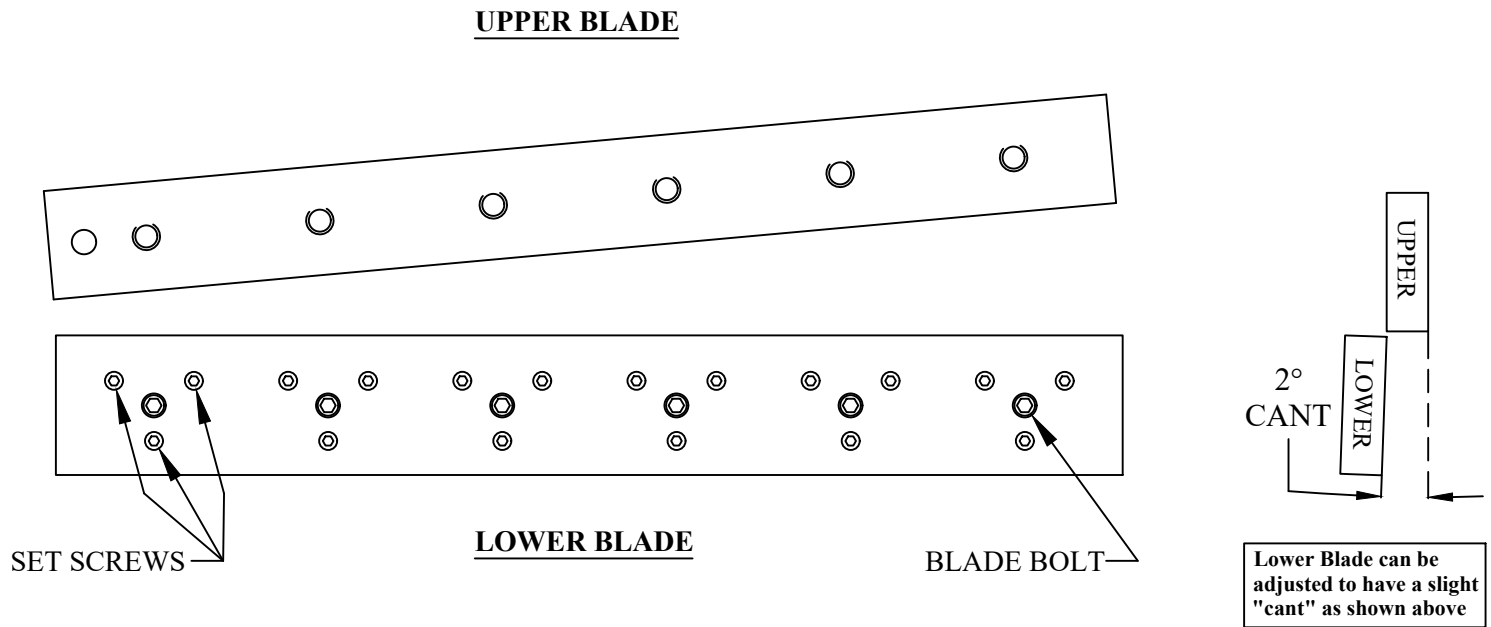

FIGURE 11
The standard shear blades fitted to the machine comprise of two rectangular fixed blades. The shear blades are symmetrical and each can be rotated to expose four (4) cutting edges. After a period of time and subsequent dulling of the blades, the blades can be removed, rotated, and reinstalled back on the machine. Blade Clearance must be checked whenever blades are changed. SEE FIG. 7 on page 19, and FIG. 11 on page 23 for more information on setting the shear blade clearance.
- Adjust the lower blade to the upper blade to achieve desired clearance. SEE FIGURE 11 ABOVE. Ensure that the lower blade is adjusted with a slight cant, or tilt of a few thousandths of an inch, as shown above right. The top cutting edge of the lower blade is closer to the top blade than the bottom edge of the lower blade.
- The standard shear blades fitted to the machine comprise of two rectangular fixed blades. The shear blades are symmetrical and each can be rotated to expose four (4) cutting edges.